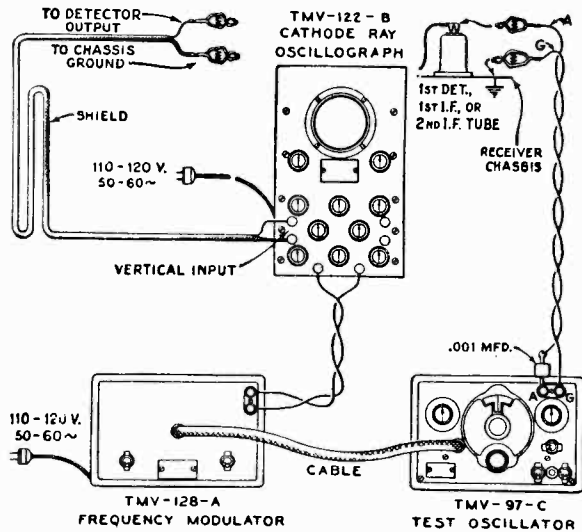

Figure 5—Alignment Apparatus Connections
The four trimmers of the two i-f transformers are located as shown by Figure 6. Each must be aligned to a basic frequency of 460 kc. The last transformer must be aligned firstly and the first transformer aligned secondly. For such a process, it is necessary to feed the output of the Full Range Oscillator to the stages in their order of alignment, adjusting the trimmers of each transformer and observing the effect at the second detector output on the Cathode-Ray Oscillograph. The proper point of connection of the Oscillograph is with its vertical "high" input terminal attached to the junction of R-7 and R-8, as illustrated in Figure 6, and with the "0" or ground terminal to the chassis. The "Ext. Sync." terminals of the Oscillograph should be connected to the Frequency Modulator as shown by Figure 5. A .001 mfd. capacitor installed in series with the Oscillator "Ant." lead will prevent the voltages of the stage under alignment from becoming upset. The vertical "A" amplifier should be "On" for the ensuing adjustments and its gain control kept at maximum. For each adjustment, the Oscillator output must be regulated so that the image obtained on the Oscillograph screen will be of the minimum size convenient for accurate observation. Proceed further as follows:—
- (b) Attach the output of the test Oscillator between the control grid cap of the RCA-6K7 i-f tube and chassis ground as shown typically by Figure 5. Tune the Oscillator to 460 kc. and set its modulation switch to "On." Regulate its output until the signal produces a wave pattern on the Oscillograph screen, adjusting the Oscillograph controls to give a shape which is convenient for peak indications. Cause the image to stand still on the screen by manipulation of the frequency and synchronizing controls. Then carefully tune the two trimmers C-20 and C-21 of the second i-f transformer to produce maximum amplitude (vertical deflection) of the oscillographic image. Under this condition the transformer will be sharply resonated to 460 kc.
- (c) The Frequency Modulator should then be placed in operation and interconnected with the Full Range Oscillator by means of the special shielded patch cord. Figure 5 shows the proper arrangement. Set the Frequency Modulator sweep range switch to its "Lo" position and turn the Oscillator modulation switch to "Off." Change the timing control of the Oscillograph to "Ext." and place the range switch to its No. 2 position. Then carefully shift the tuning of the Oscillator so as to increase its frequency, until two distinct and similar waves appear on the Oscillograph screen and become exactly coincident at their highest points. This condition will be found to occur at an Oscillator setting of approximately 540 kc. The curves will be identical in shape but appearing in reversed positions. Adjust the frequency control of the Oscillograph in order to cause the waves to conform with the above requirement and to make them remain motionless on the screen. This will require a setting of approximately 1/2 clockwise rotation of the frequency control. The trimmers C-20 and C-21 should then be re-adjusted so that the two curves move together and become exactly coincident throughout their lengths, maintaining the maximum amplitude at which this condition can be brought about.